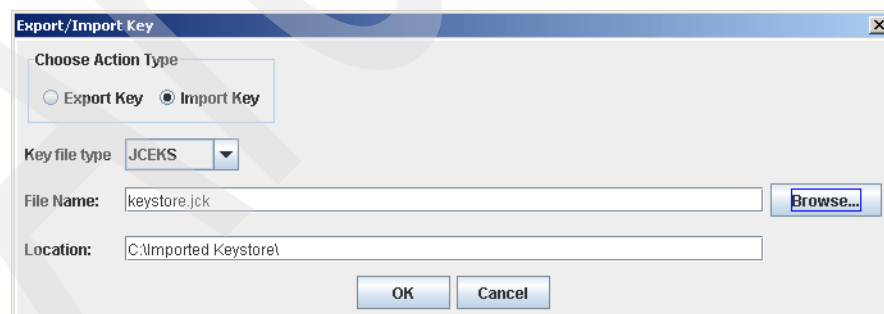

Figure 6-26 Export/Import Key dialog box
2. In the Export/Import window (Figure 6-26), select **Import Key** and specify the key file (that is, the keystore type, **JCEKS**), the File Name, and the Location of the keystore from which you want to import the keys. Click **OK**.